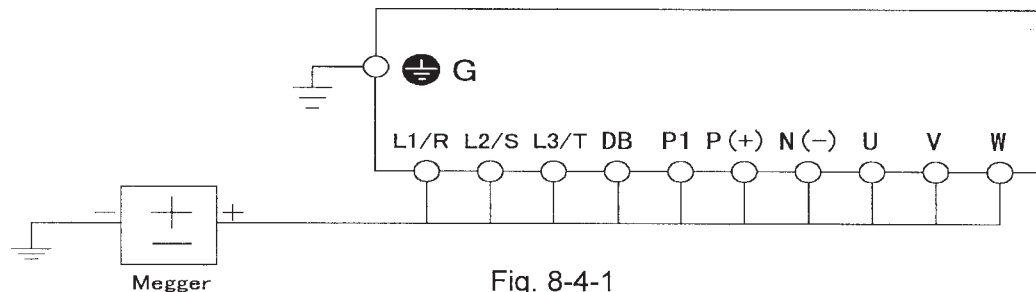

Fig. 8-4-1
3. Connect the main circuit terminals using common cables, as shown in Fig. 8-4-1.